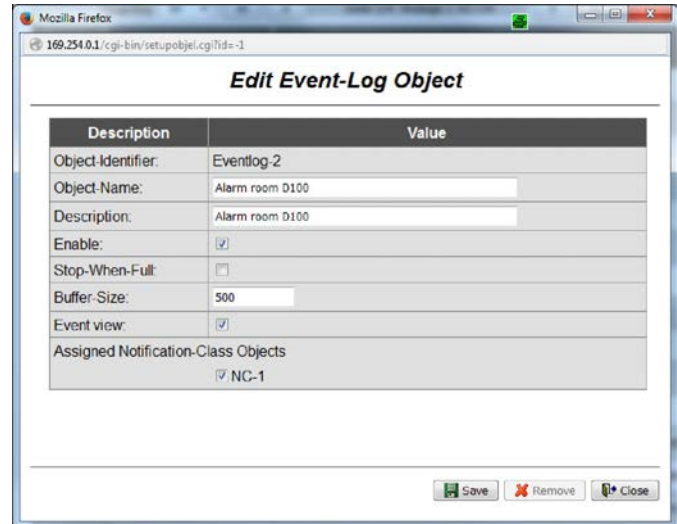

Fig. 42: Editing an event log object
- ⇒ The 'Edit event log object' (Fig. 42) menu is displayed.